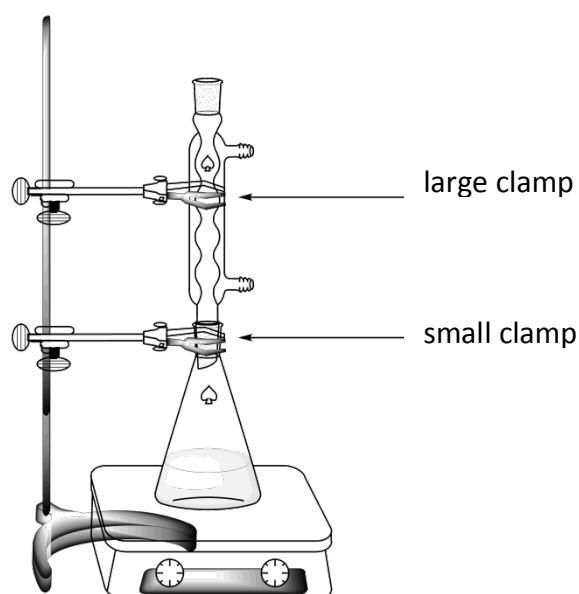

Figure 1. Setup for heating the reaction mixture under reflux
- Attach** the reflux condenser by loosening the large clamp and adjusting the ground joints (see Figure 1). **Raise** your HELP card. A lab assistant will come to turn-on the water and set the hotplate.
2. **Perform** the recrystallization of the crude product contained in the 50 mL ground-joint Erlenmeyer flask with the appropriate amount of this water/ethanol mixture, using the same setup as for the reflux heating (see Figure 1). **Raise** your HELP card. A lab assistant will come to turn on the water and set the hotplate. **Add** the solvent through the top of the condenser if needed.